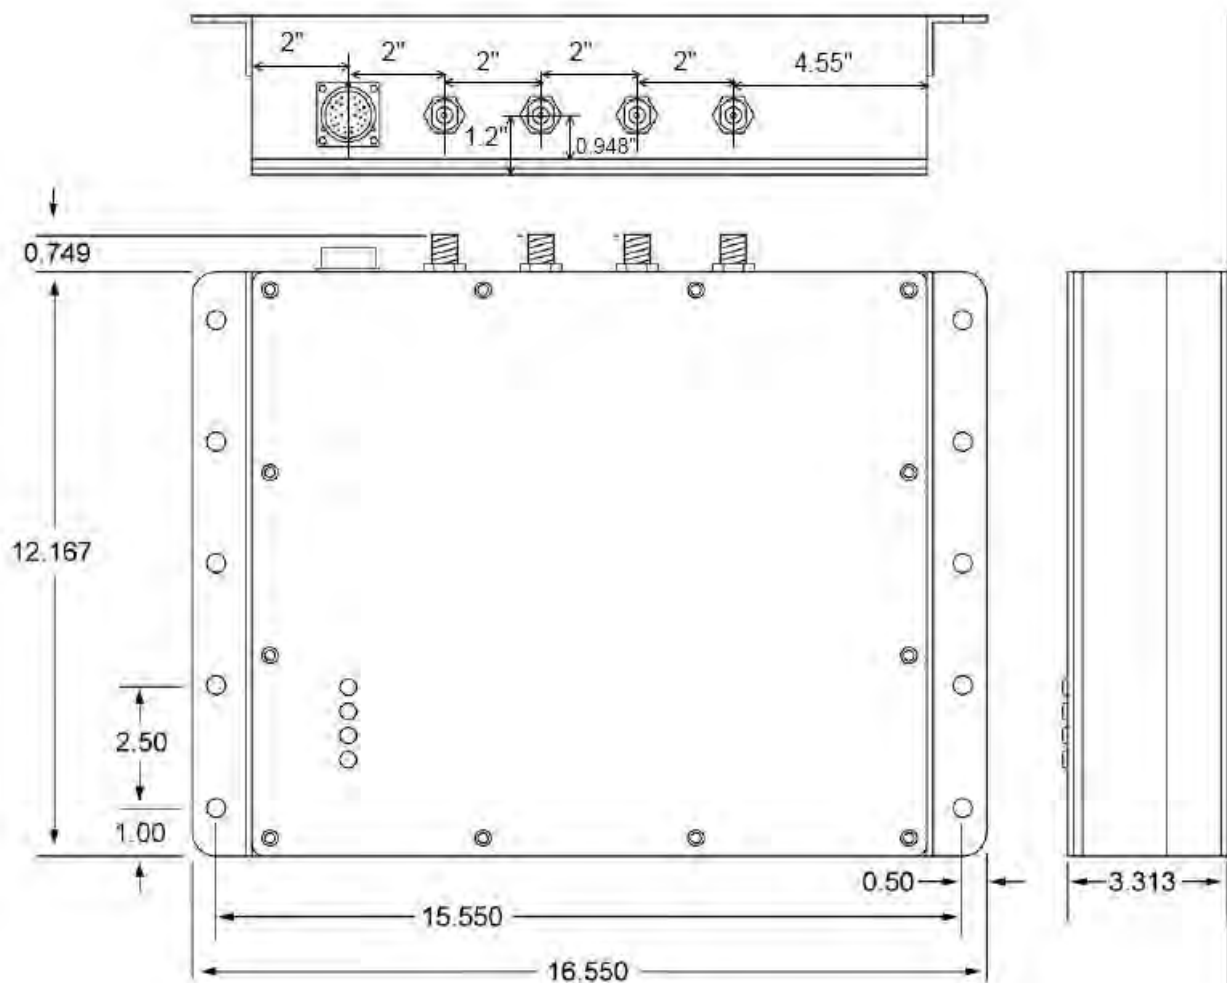

Figure 3 3M Toll RFID Reader 6204 Mechanical Dimensions and Mounting Hole Locations (Dimensions in Inches)
To mount the 6204 assembly, refer to Figure 3 and perform the following:
- 1** Prepare the mounting surface to accept the 10 mounting bolts. The hole pattern should match that shown in Figure 3 and the mounting surface must be able to support 11 lbs (5 kg).